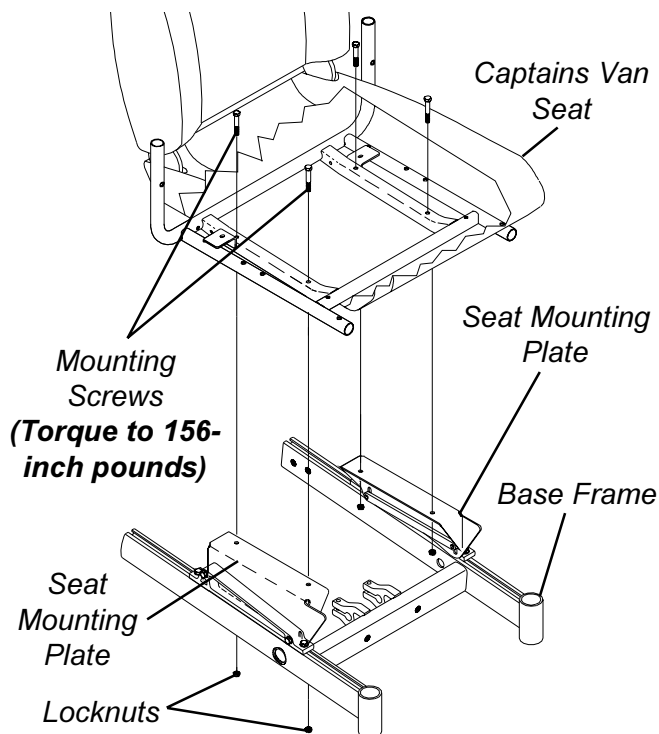

FIGURE 7 - REMOVING/INSTALLING CAPTAINS VAN SEAT ASSEMBLY
### INSTALLING/REMOVING CAPTAINS VAN SEAT ASSEMBLY (FIGURE 7)
1. Position the captains van seat on the seat mounting plates at the position shown in FIGURE 7.
3. Secure the captains van seat to the seat mounting plates with four (4) mounting screws, and locknuts. Torque to 156-inch pounds.